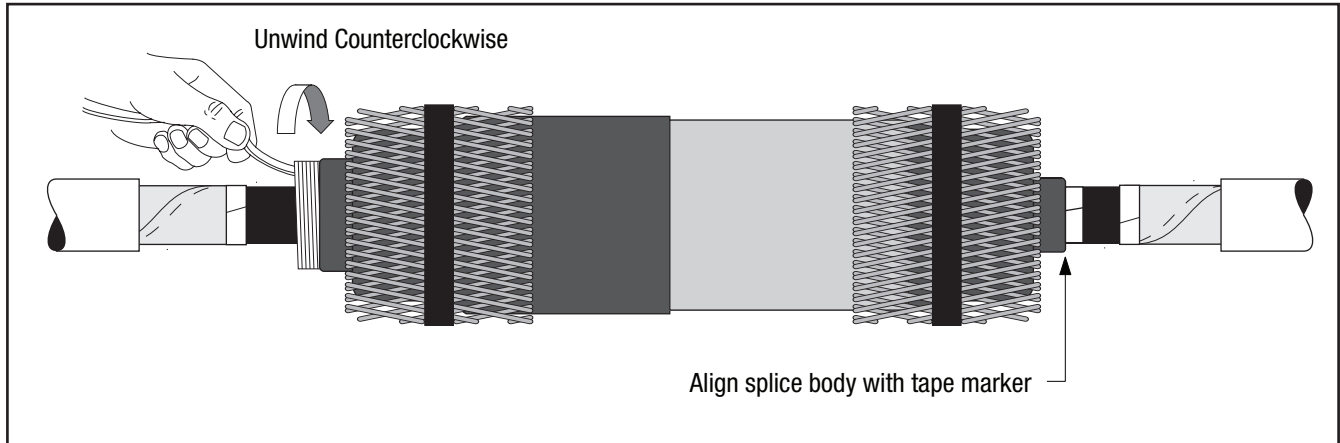

Figure 13
- 4.5 Position the splice body over connector area, aligning end of the splice body (not the core) at the center of the tape marker. **Slowly** start to remove the splice core by pulling and unwinding the loose core end counterclockwise, allowing only ¼" (6 mm) of the splice to shrink onto the tape marker. Carefully slide the splice body off the tape marker by pulling and twisting until the entire tape marker is exposed. Continue removing the core to complete the splice body installation (*Figure 13*).